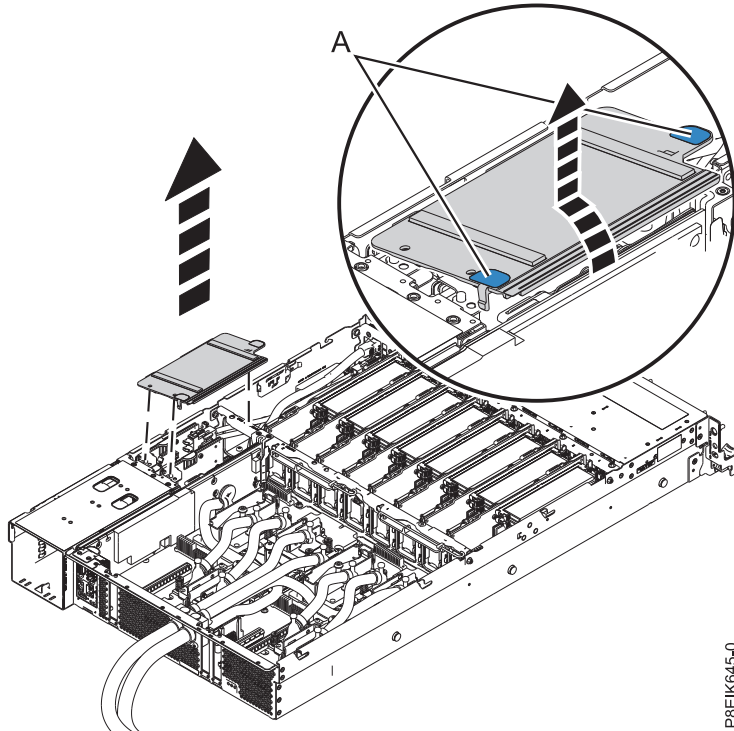

Figure 142. Removing the power riser air baffle
2. Remove the power riser air baffle. Using the blue tabs (A), unsnap the baffle and lift it from the system. See Figure 142 on page 123.